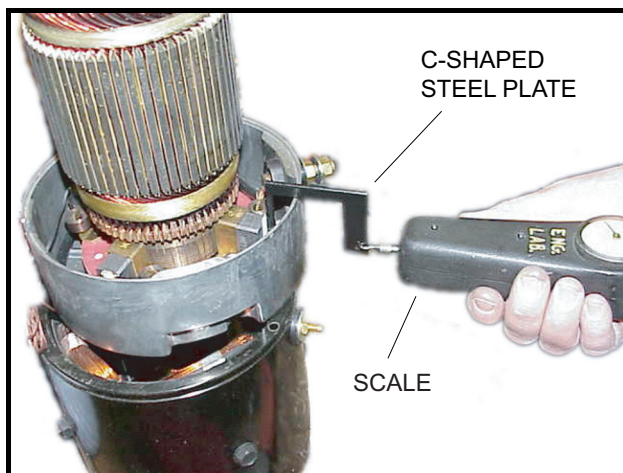

Figure 27-13 Brush Spring Tension Test
- 4.2. Place the end of the C-shaped plate so that it is between the spring and the brush as shown (**Figure 27-13, Page 27-9**).
- 4.4. Replace springs which require a force of less than 35 oz. (990 grams) (**Figure 27-13, Page 27-9**). **See following NOTE.**